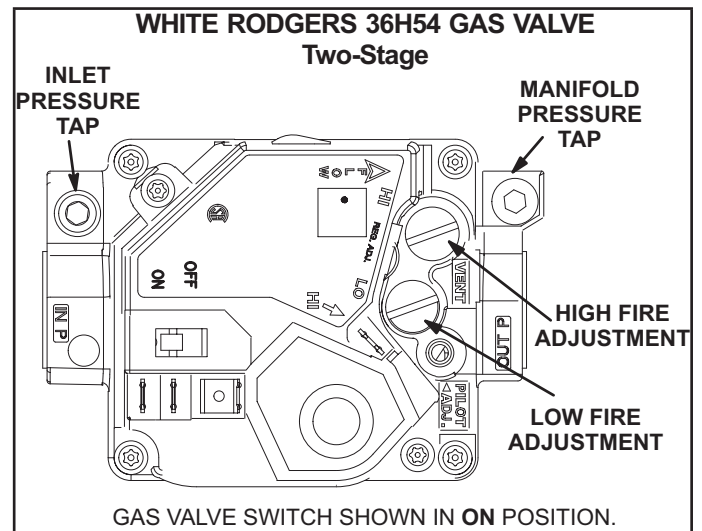

FIGURE 39
Gas Valve Operation for Honeywell VR8205Q / VR8305Q and White Rodgers 36H54 (FIGURE 39)
- 5 - Turn gas valve switch to **OFF**. See FIGURE 39.
- 6 - Wait five (5) minutes to clear out any gas. If you then smell gas, **STOP!** Immediately call your gas supplier from a neighbor's phone. Follow the gas supplier's instructions. If you do not smell gas, go to the next step.
- 7 - Turn gas valve switch to **ON**. See FIGURE 39.